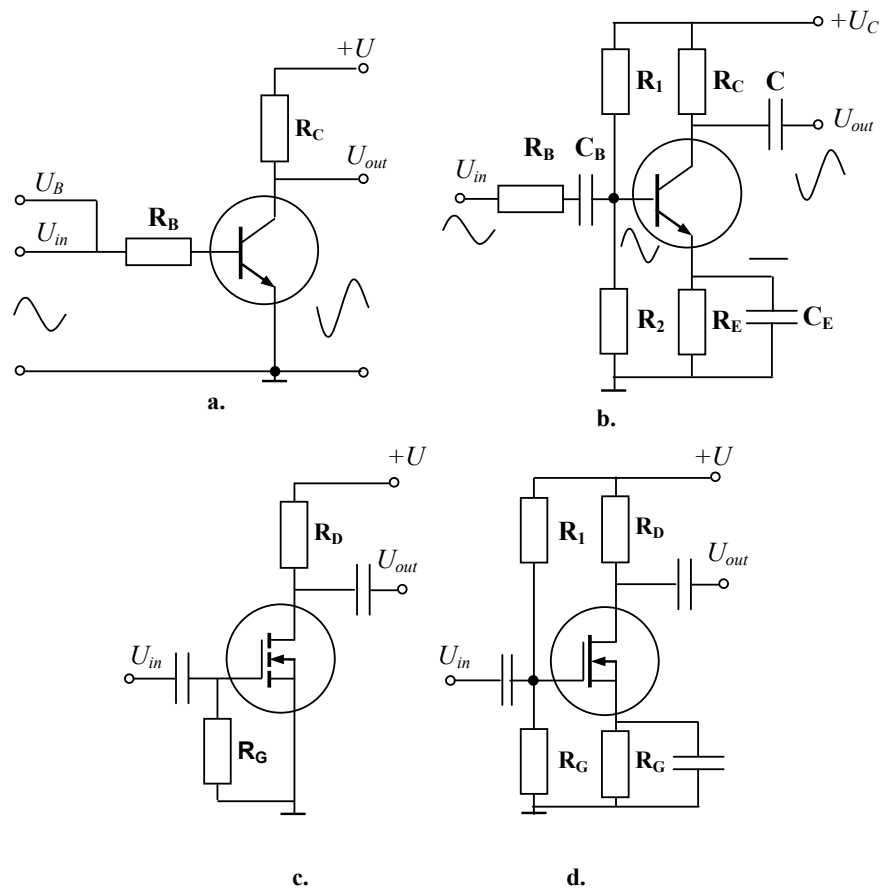

Fig. 2.11
**CE current amplifiers.** Fig. 2.11,a displays a simple transistor linear amplifier. Because the emitter is at the ac ground, it is the CE amplifier. In this circuit, the ac input signal  $U_{in}$  is added to the dc biasing voltage  $U_B$ . They produce a voltage drop in the base resistor  $R_B$ . As a result, the total base voltage changes in accordance with the input signal. Since the base voltage changes, the collector current changes also, as well as the voltage in the resistor  $R_C$  and in the load supplied by  $U_{out}$ . The amplified ac collector voltage is equivalent to being 180 degrees out of phase with the input voltage.
A transistor *current amplifier* used in practice is presented in Fig. 2.11,b. Here, variations in both resistor voltages (base and collector) and transistor currents take place similarly to as in the previous circuit. The only quantity that does not change is the emitter voltage because the emitter is at ac ground.  $U_C$  is the dc supply voltage that sets the  $Q$  point and  $U_{in}$  is the ac voltage that should be amplified. Except for external ac source, the dc biasing current enters the base circuit through the divider  $R_1R_2$ . Its value has to be higher than the maximum amplitude of  $U_{in}$ . In such a way,  $U_{in}$  will be amplified without clipping.
The figures below illustrate the current amplifiers with  $n$ -channel enhancement-mode MOSFET (Fig. 2.11,c) and depletion-mode MOSFET (Fig. 2.11,d). Each circuit has the common source, and the input voltage applied to the gate changes the output voltage signal. MOSFETs have very high input impedance at low frequencies (hundreds teraohms) whereas the BJTs input impedance is tens of megohms. These impedances drop down with the frequency growing.